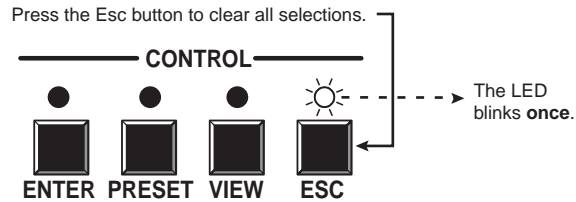

Figure 3-33 — Clear all selections
1. Press and release the Esc button (figure 3-33).